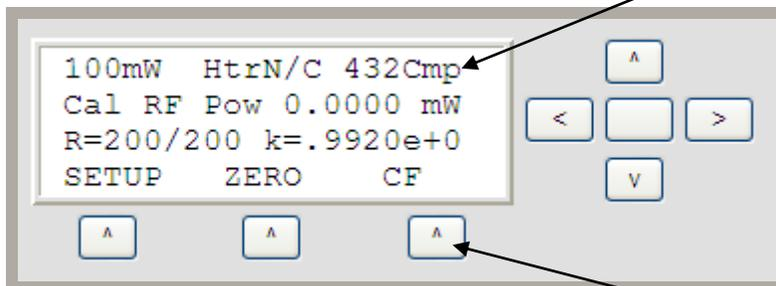

Figure 6 - Main 432Comp Mode Measure Screen
10. Press **Enter** soft-key, the screen should now look like Figure 6. Notice **432Comp** in upper right hand corner.
10. Press **Enter** soft-key, the screen should now look like Figure 6. Notice **NoComp** in upper right hand corner.